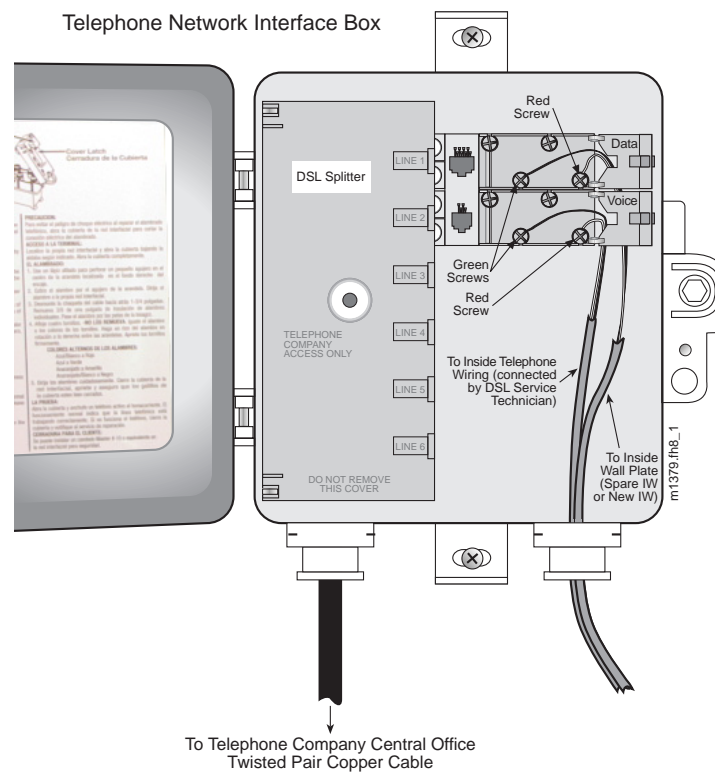

Figure 4-2: Telephone Network Interface Box- DSL Splitter
Figure 4-2 shows an expanded view of the inside wiring of the telephone network interface box.
1. On the outside of your house, locate and open the telephone network interface box. (Your local DSL service provider should have installed the DSL splitter) Slide open the splitter latch door and locate the colored screws. (Note the color of the wires that are connected to the green and red screws.) See Figure 4-2 for an illustration.
2. Inside the residence, locate the telephone RJ-11 wall jack that is nearest to your PC and remove it. Replace it with a new dual RJ-11 wall plate and connect the same colored wires that are attached to the green and red screws on the DSL splitter data module to the green and red pins on the RJ-11 wall jack. For example, if a black wire is connected to the green screw in the data side of the DSL splitter (see Figure 4-2), connect the same black wire to the green pin of the new wall jack. (If required, repeat this step for the voice wire.)